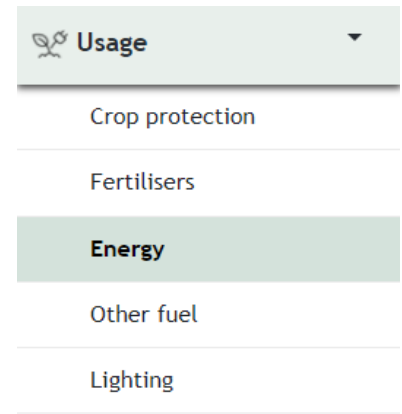

Figure 8
1. Click on 'Usage' in the menu and then on 'Energy' (see figure 8).